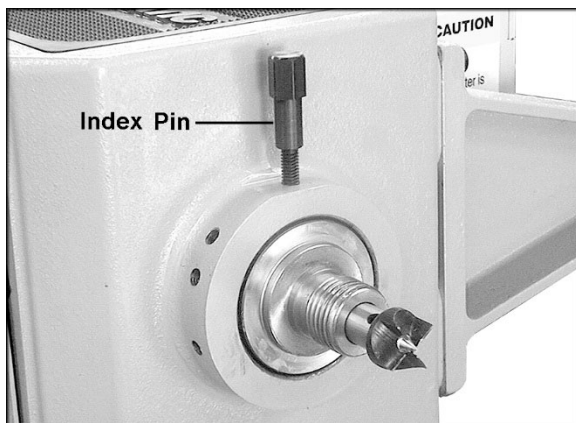

Figure 17
There are 12 holes in the spindle collar spaced 30° apart, and 4 holes in the headstock casting which accept the index pin (see Figures 17 and 18). The combination of holes will allow you to mark your workpiece for evenly spaced features.
1. To use the indexer, thread the index pin (Figure 17) into one of the four holes until the index pin engages the spindle and prevents it from turning. This will be your first indexing position.